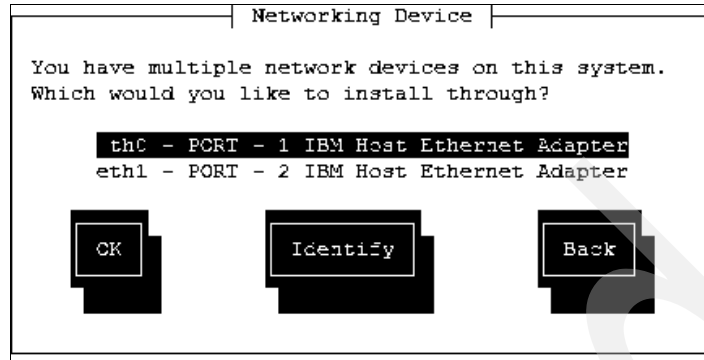

Figure 8-10 Select network device
5. Select the networking device to install the image from, as shown in Figure 8-10 on page 337